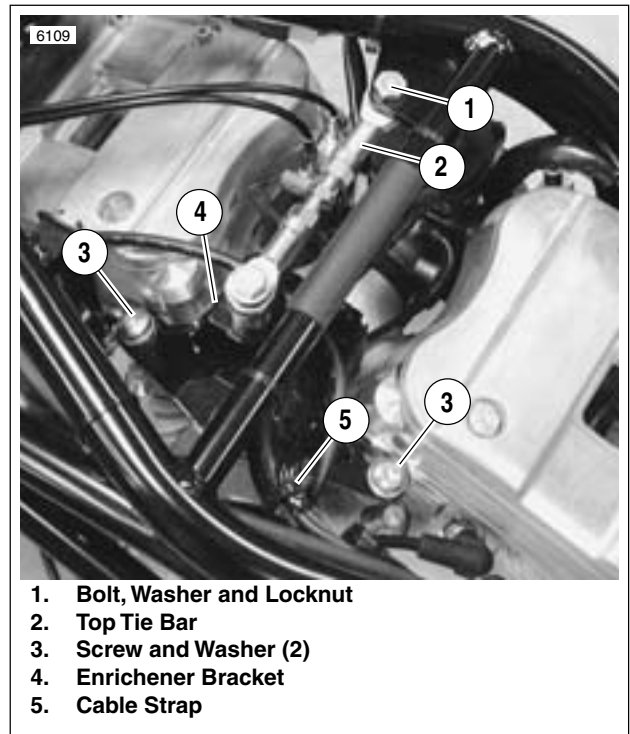

Figure 4-15. Enrichener Bracket
2. Place intake manifold seals (3) on each spigot of manifold with chamfered edge against mounting flanges (1, 2).
3. Place channel of seal ring (6) over inlet end of manifold.
- b. Insert two screws (4) through manifold flanges on gearcase cover side. Loosely thread screws into tapped holes in cylinder head.
- c. Tighten all intake manifold screws (4) to 6-10 ft-lbs (8-14 Nm).
5. See Figure 4-15. Install enrichener bracket (4).
- a. Fasten bracket to cylinder heads with two screws and two washers (3). Tighten to 25-30 ft-lbs (34-41 Nm).
- b. Insert bolt (1) through frame. Secure tie bar (2) under frame tab with washer and locknut. Tighten to 30-33 ft-lbs (41-45 Nm).